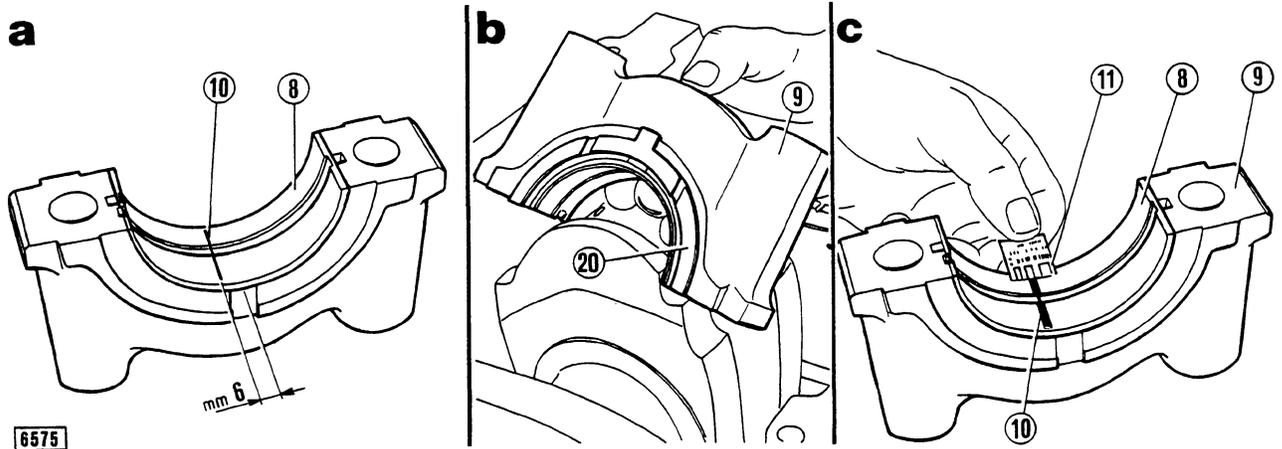

Fig. 29 - Checking clearance between shells and journals.
6 mm (0.236 in) from its center (a, fig. 29) ;
- put thrust half rings on center bearing and cap with lubrication grooves facing towards the center journal shoulders(b, fig.29) ;